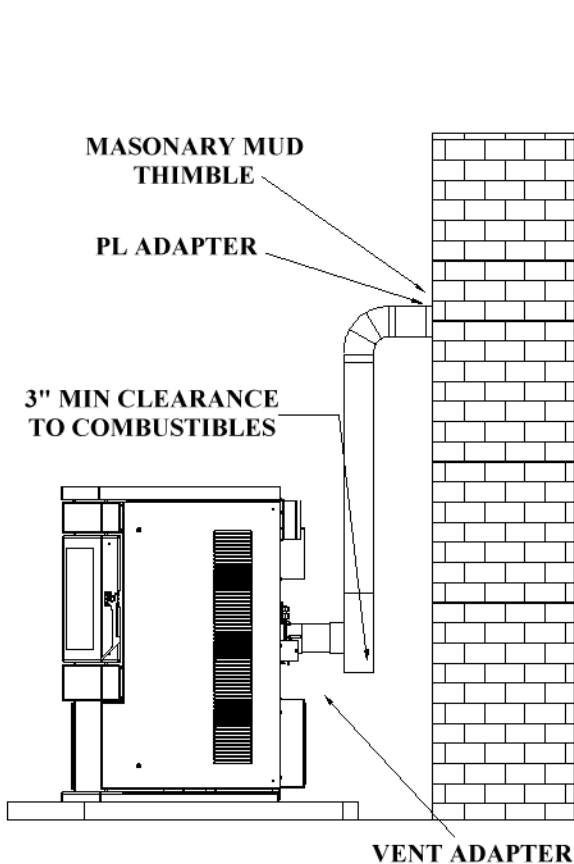

Figure 6
3. Venting into the side of an existing masonry chimney must be done through a masonry thimble. When wall penetration is necessary to access a masonry chimney, use a listed PL vent wall thimble. (Figure 6).